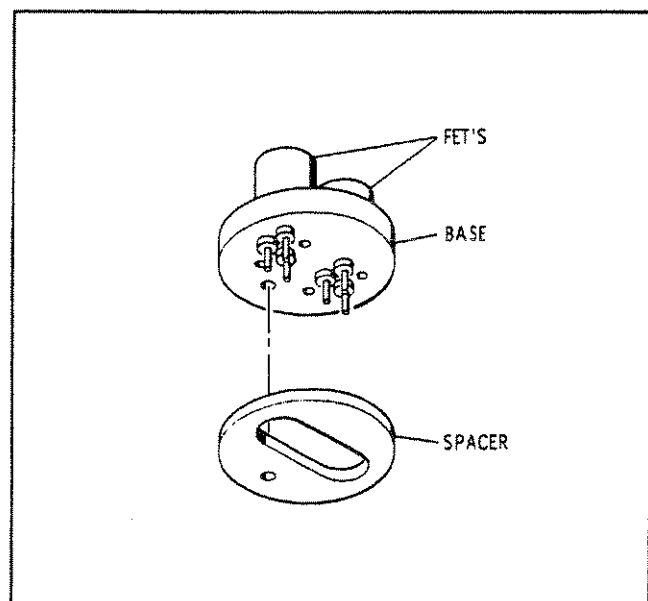

Figure A1. FET Assembly and Spacer
a. Insert the FET Assembly leads through the spacer and printed circuit board. Refer to Figure A1.